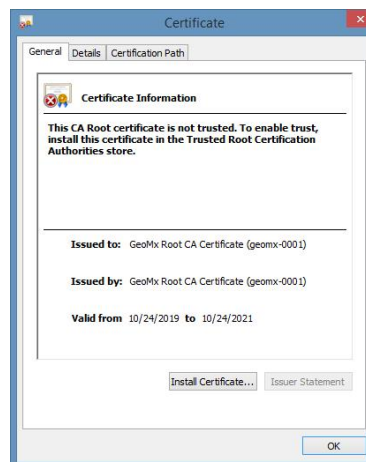

Figure 84: Install certificate window
5. Click the **Install Certificate** button (see Figure 84).